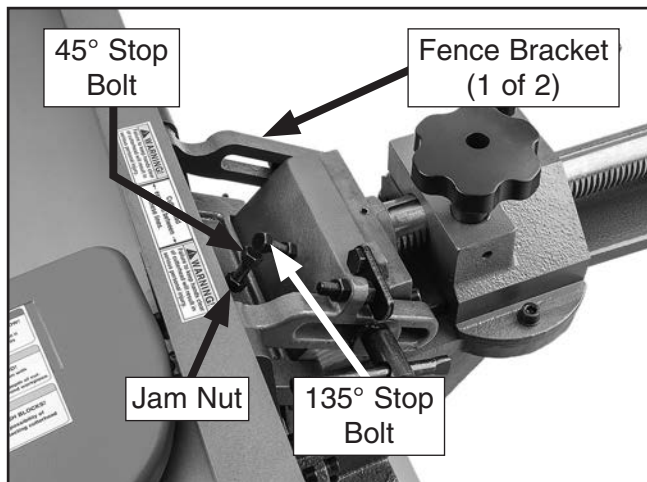

Figure 69. 45° inward fence stop bolt.
2. Loosen jam nut shown in **Figure 69**.
3. Adjust 45° stop bolt until it makes contact with 135° stop bolt (see **Figure 69**).